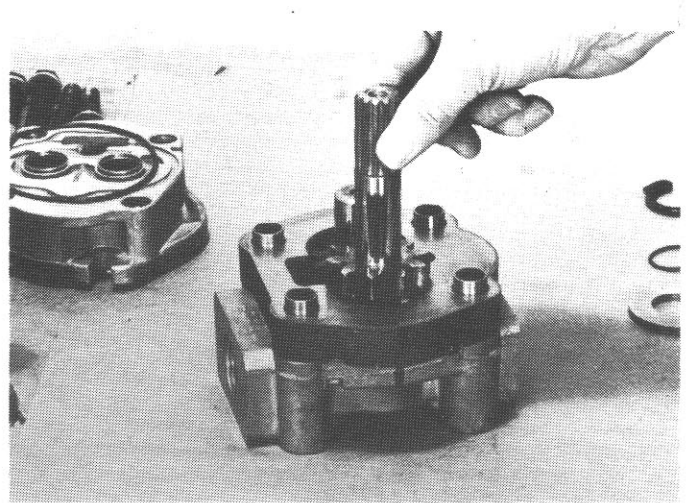

Fig. 18
22. Install drive gear (10) in gear bore nearest to matching mark and idler gear (11) in opposite bore. (Fig. 18)